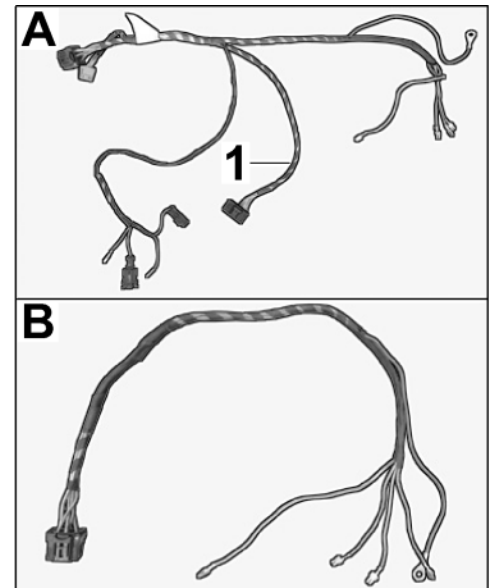

Figure 6
2.3.1 Remove branch for button for electric towbar system (⇒ *Figure 6 -1-*) and other branch from the RdW version wiring harness.
2.3.2 Complete wire harness USA/Australia version (⇒ *Figure 6 -B-*).